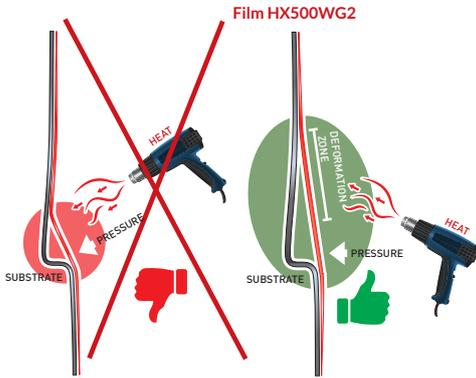

Figure 08
- › Stretch the vinyl over the substrate so that the film touches the peaks only. (FIG. 08)